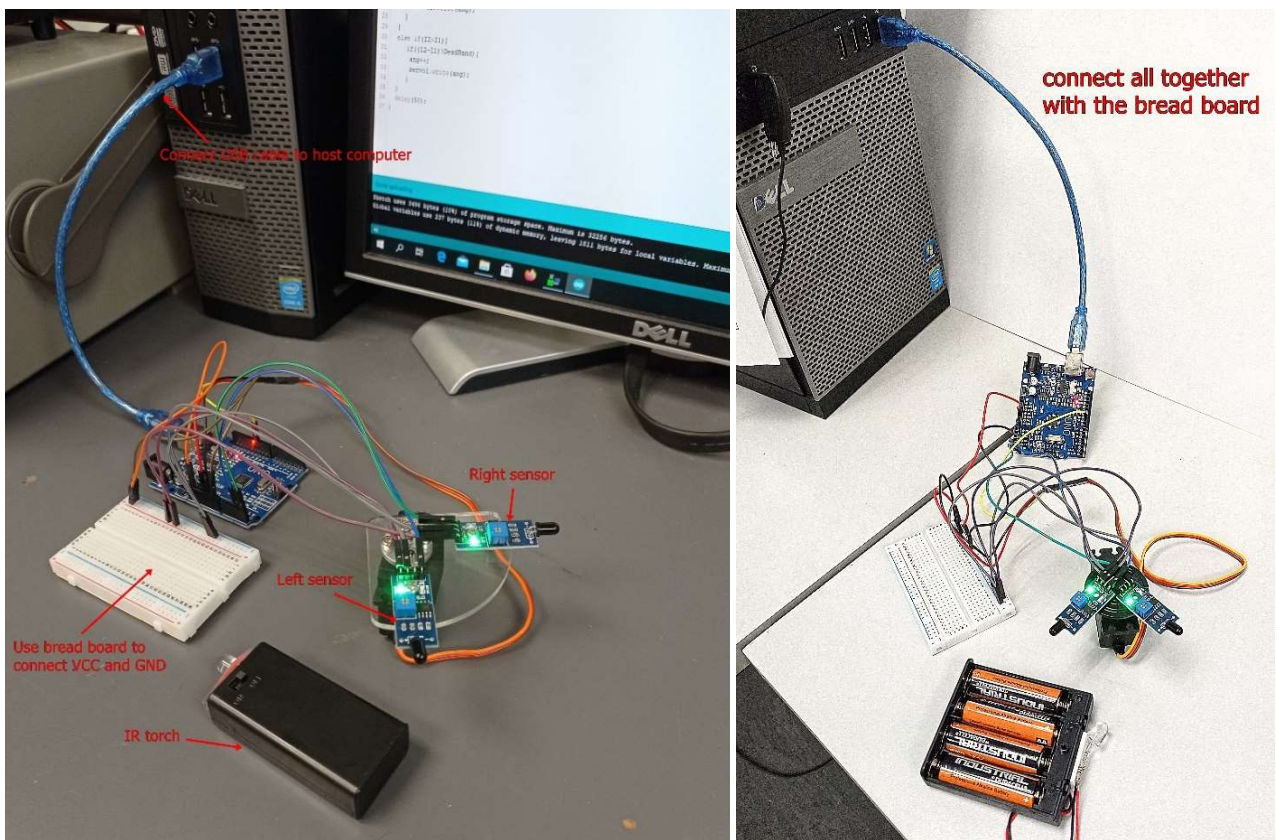

Fig. 8: The whole system connection
- d. Connect the USB cable to the host computer. The whole system is connected as shown in Fig. 8.